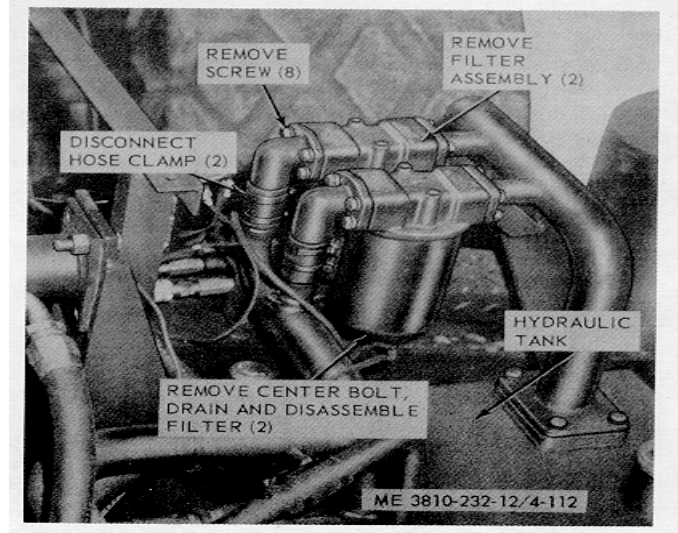

Figure 4-112. Hydraulic oil filter, removal and installation (model 2385)
(1) Remove hydraulic oil filter as illustrated in figure 4-112.